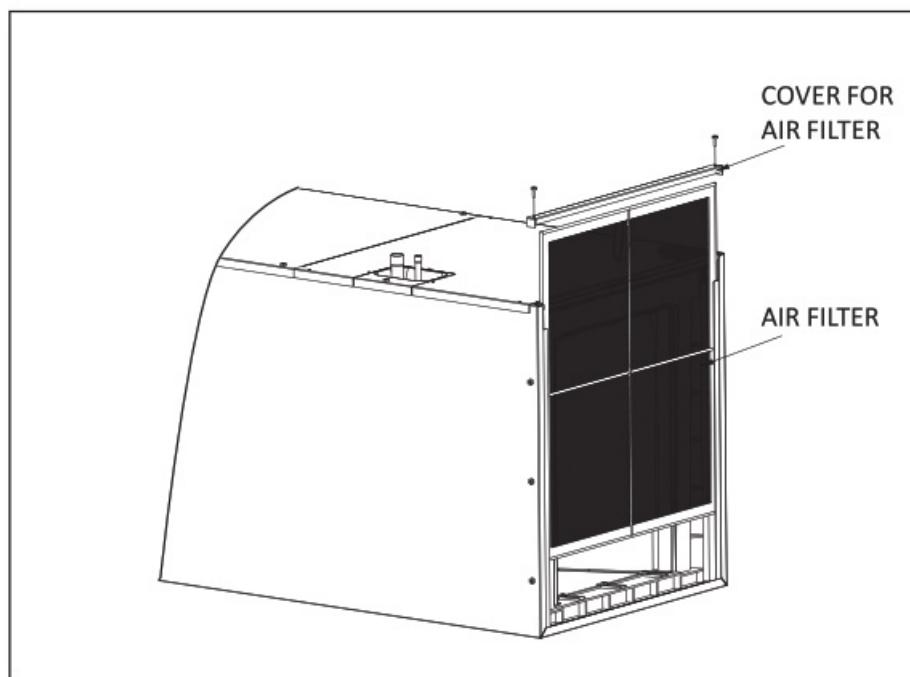

Fig. 6 EXTERNAL FILTER BASE
1. Tear down the two bolts marked A and B, and remove the cover for air filter (Refer to Fig. 6).